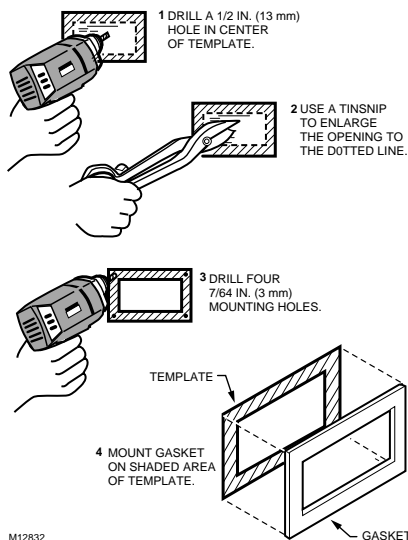

Fig. 3. Use template to mount control.
3. Refer to the template, Fig. 3, and use the following steps to drill the control assembly opening, mounting holes and mount the gasket: